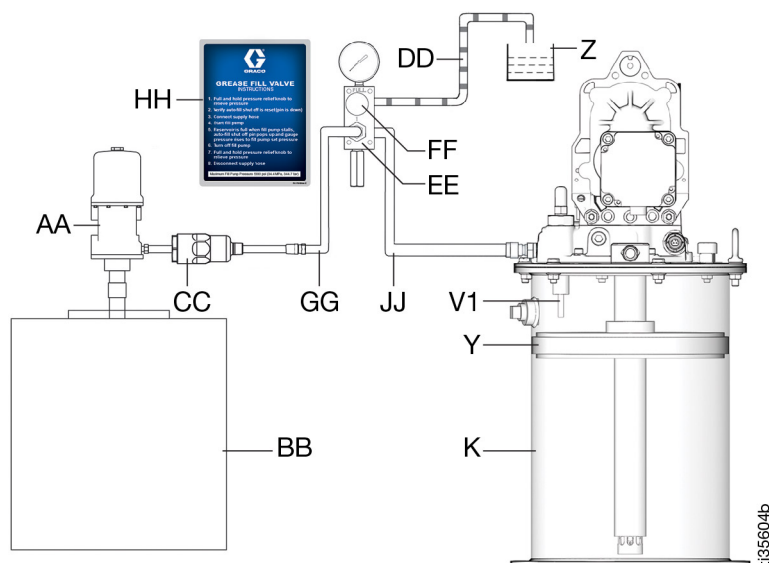

FIG. 12
NOTE: Use fill valve P/N 77X542 (as shown in FIG. 12) to protect from overpressure, or use safety relief valve set at 5000 psi (34.5 MPa, 345 bar) in the refilling line (GG).